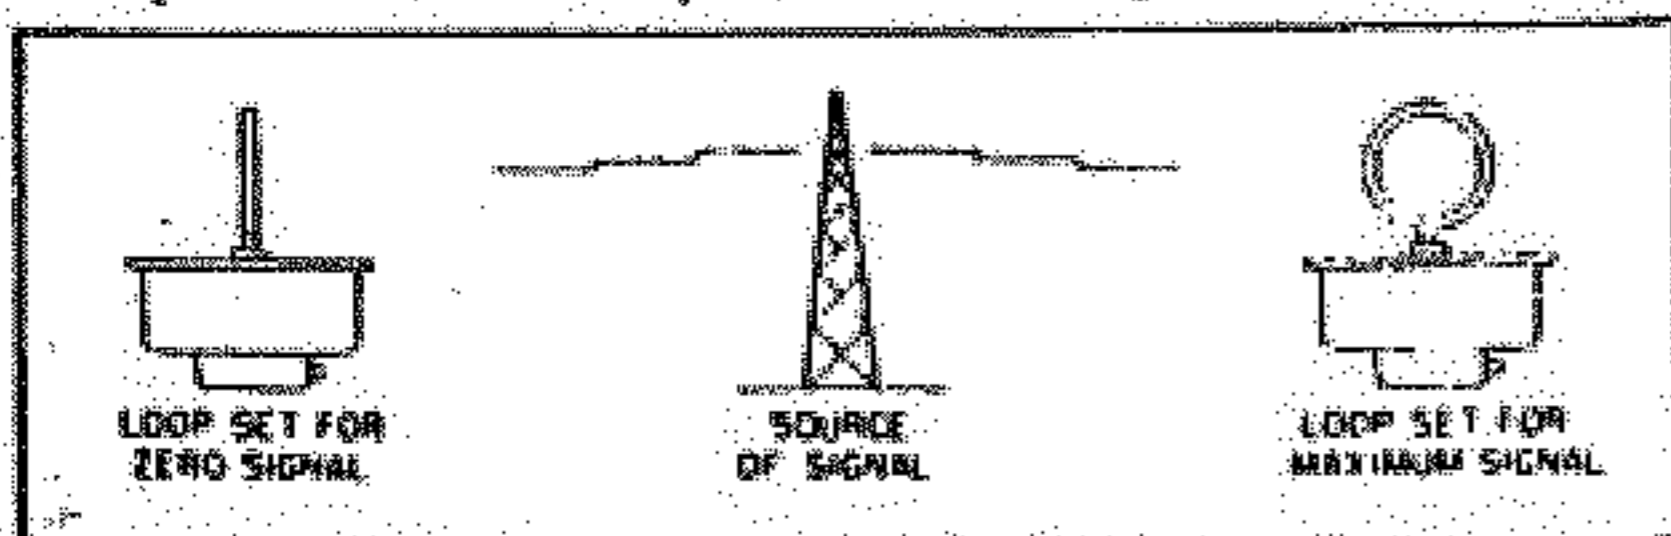

Figure 4-1. Loop Positions, Maximum and Zero Signal
(2) The loop antenna is directional in that the voltage induced in the loop is maximum when the line of travel of the received radio wave lies in the plane of the loop coil (figure 4-1). The resultant voltage which is induced in the loop is 90 degrees out of phase with that of the sense antenna, and leads or lags according to which edge of the loop coil is nearer the signal source.
(3) In "Compass" operation, the direction in which the motor drives the loop coil depends (through receiver circuits) on whether the loop signal leads or lags the sense signal; by this means the loop coil is rotated so that the same side of the coil is always toward the station being received. Since the loop coil position is transferred to the indicators by the autosyn systems, except as discussed in paragraph (4) immediately following, the indicators show the bearing of the received station.
(4) The line of travel of the received radio wave is subject to distortion by the metallic structure of the airplane; the effect of this distortion is to make the station being received appear to be in a false direction. Since the loop is unable to allow for this, a compensator, mentioned in paragraph (1) above, comes between the loop coil shaft and the autosyn transmitter. This causes the transmitter to run behind or ahead of the loop, according to an experimentally determined curve (section II, "Installation and Adjustment," paragraph 2.a.), so that the indicators will give the correct bearing.